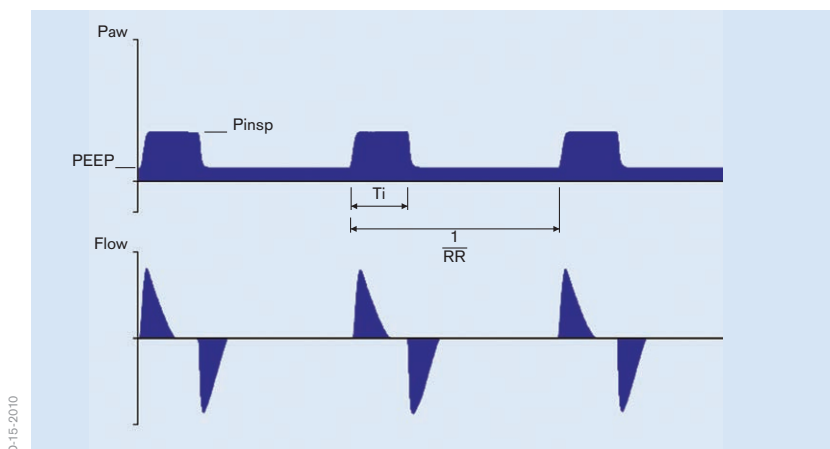

Figure 19: PC-CMV
- permitted spontaneous breathing during the whole breathing cycle (Figure 19)